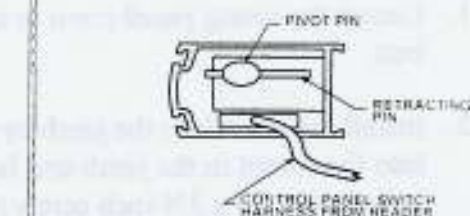

Figure 14
4. Route the control panel wiring harness from inside the header past the fixed panel top pivot. *Note: The wire harness will go around the track, not through it like a Full Open (See Figures 14 and 17).*